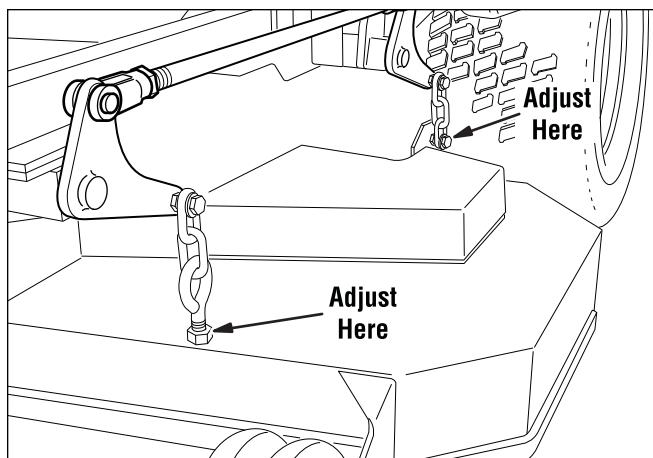

Figure 41. Hanger Chain Adjustment
- Adjust the front eyebolts until the chains are tight and the deck is still resting on the 2 x 4's. Tighten the jam nuts. See Figure 41.
- Loosen the nuts and allow the rear of the deck to rest on the 2 x 4's and 1/4" spacers. Slide the chains down in the slots until the chains are tight and tighten the nuts. See Figure 41.